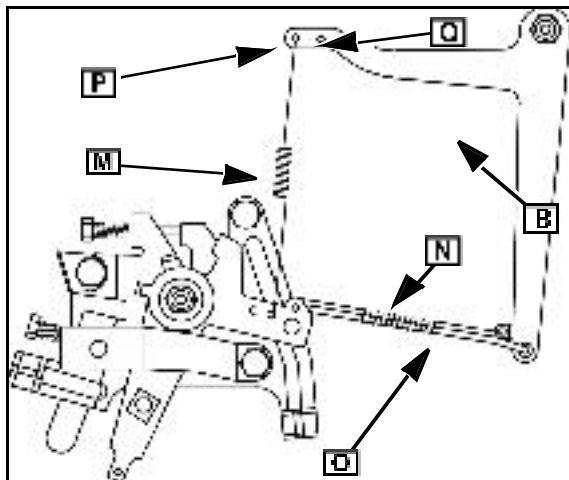
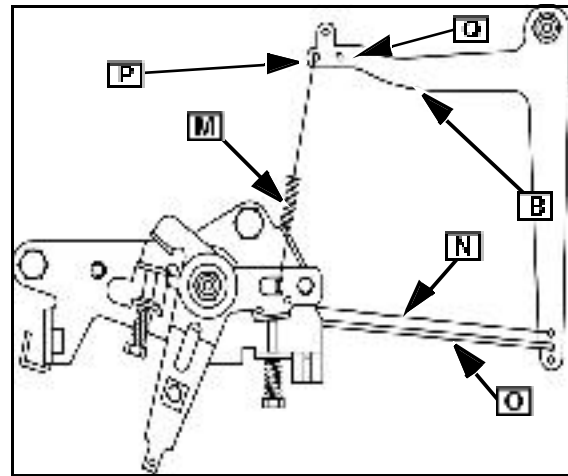

Fig. 20
Fig. 21
NOTE: The following two illustrations (Fig. 20 & Fig. 21) show the general procedure for assembling governor linkages. Details vary with the type of equipment being powered.
13. Hook governor spring (M), link (O) and link spring (N) into lever ([B] Fig.20 or Fig.21).
NOTE: 60 Hz generators use the outer hole ([P] Fig. 21), while 50 Hz generators use the inner hole (Q) on the governor lever (B). Generator governor spring part numbers are listed in the Illustrated Parts List.